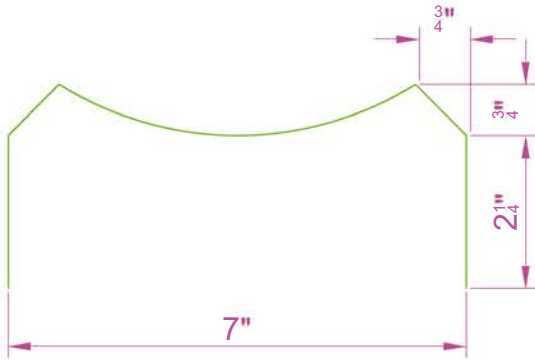
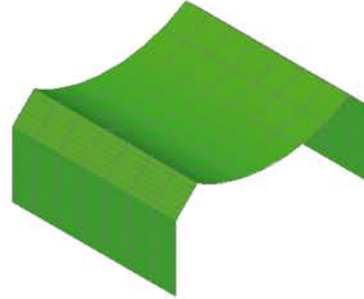

Fig. 11.41 Exercise 5 – outline to be extruded
Fig. 11.42 Exercise 5
5. In the **Top** view, on a layer colour **blue**, construct the four polylines Fig. 11.41. Call the **Extrude** tool and extrude the polylines to a height of **80** and place in the **Isometric** and in the shade style **Visual Styles/Realistic** (Fig. 11.42).